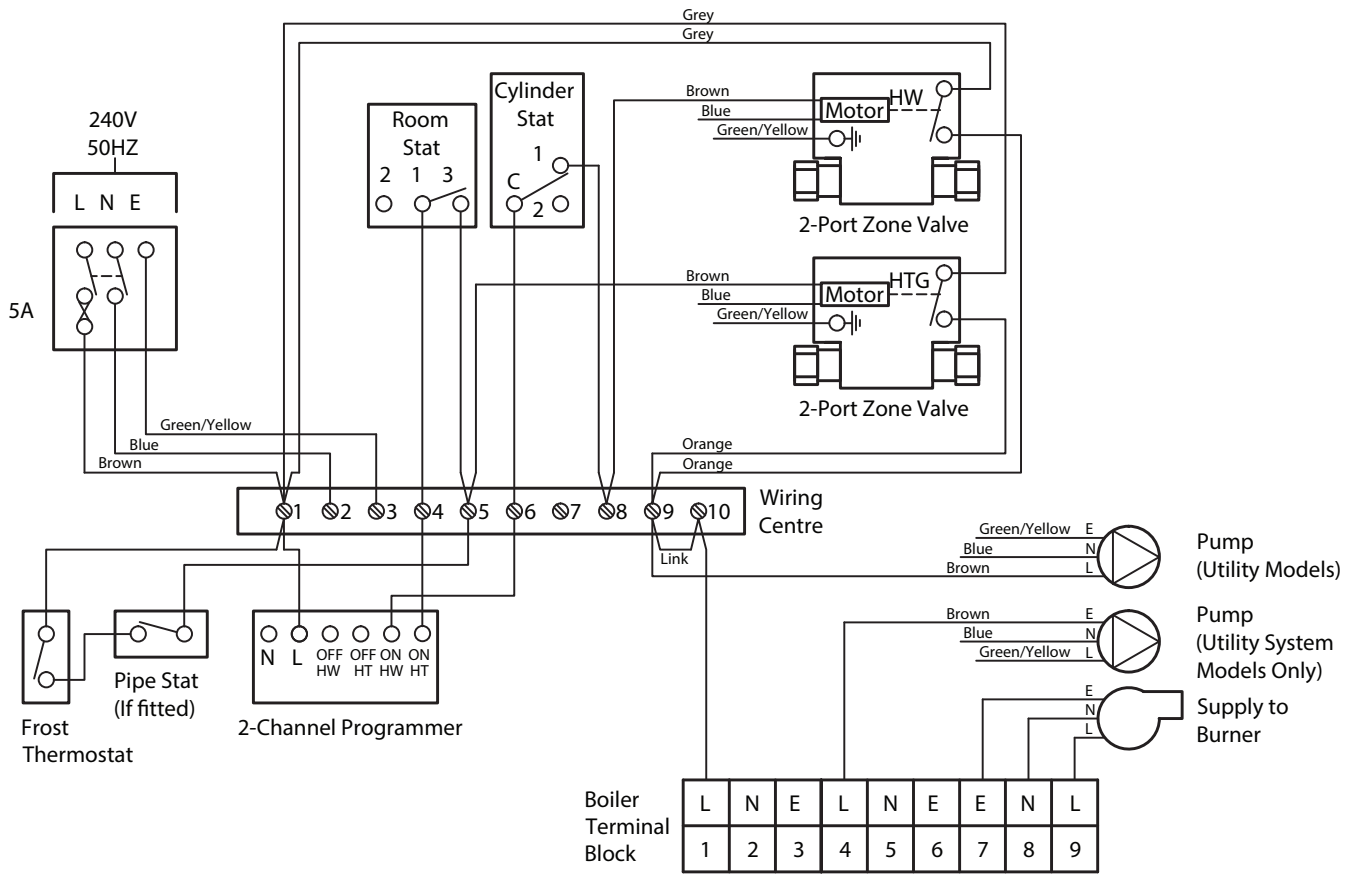

Figure 8-1: Utility & Utility System models with 2 X 2-port valve control system
Refer to Figures 8-1 and 8-2 for typical control system wiring diagrams for all models.
Refer to Figures 8-1 and 8-2 for typical control system wiring diagrams.
3. Make the remaining required connections to the control panel, as detailed in Figures 8-1 and 8-2.
Refer to Figures 8-1 and 8-2 (as appropriate) for connection details.